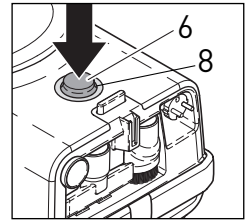
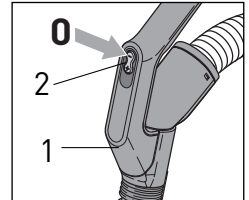

Figure 1
Figure 2
## Starting the machine with a non-power-head attached - Figures 1, 2 & 3
## Additional instructions for starting the machine with a power head attached - Figures 1, 2, 3, 4, 5 & 6
When the canister On/Off button (#6, figure 1) is in the ON position, you may turn the power head off and on using the power control button (#2, figure 2) on the handle. To turn the power head off using the power control button on the handle, push the minus (-) button until the suction stops. The green light (44) on the power head will then shut off. The blue light (8) on the canister will remain illuminated until the vacuum is powered off using the On/Off button on the canister (6).
**Always turn the power off on the canister AND the power head when changing heads or unplugging the vacuum.** Press the minus (-) on the power control button (2) on the handle grip until the suction stops, press the On/Off button (6) on the base of the canister gently with your foot or hand, then unplug the canister to completely shut down the power when changing heads or storing the vacuum.